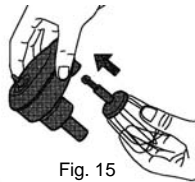

Fig. 15
3. Click the whisk beater into the short extension of the whisk head. (Fig. 15)